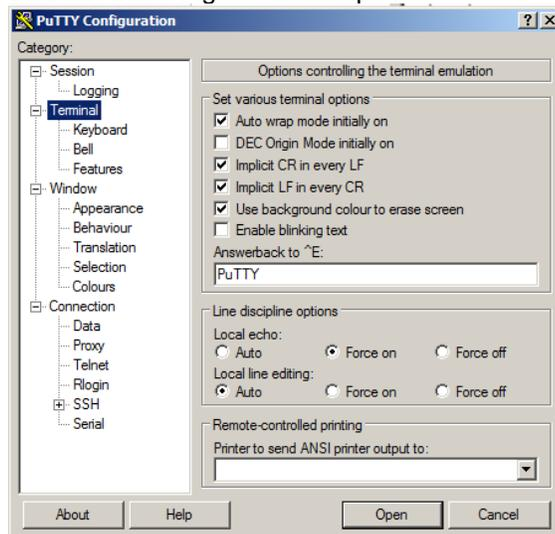

Fig. 3. Putty "Terminal" category configuration.
- Select: “auto wrap mode initially on”, “implicit CR in every LF”, “implicit LF in every CR”, and “Local echo: Force On”. See Fig. 3 for example.